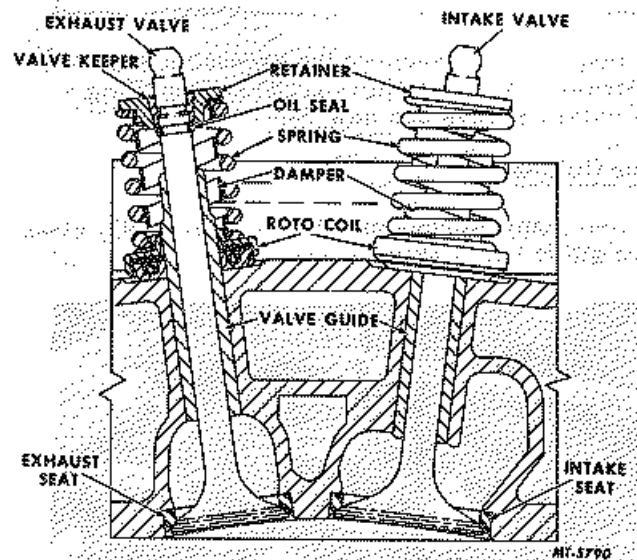

Fig. 123 Sectional View of Valve Installation
- b. Release spring compressor and remove spring retainer, valve spring and damper assembly, valve stem seal and Rotocoil assembly (Figure 123).
Wipe valve faces and seats with cleaning solvent to remove all dirt or foreign material. Coat valve stems and faces with oil and install valves in the seats to which they were checked. Install Roto-coil assembly, valve spring and damper assembly, valve stem seal and spring retainer (Figure 123). Compress valve spring with valve spring compressor and install valve spring retainer locks. Be sure retainer and locks are correctly seated on all valves.